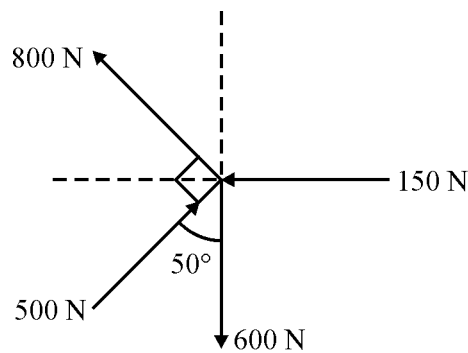

Fig. 2
- (e) Find the resultant of all forces shown in Fig. 2. Mark it's position & direction on sketch.